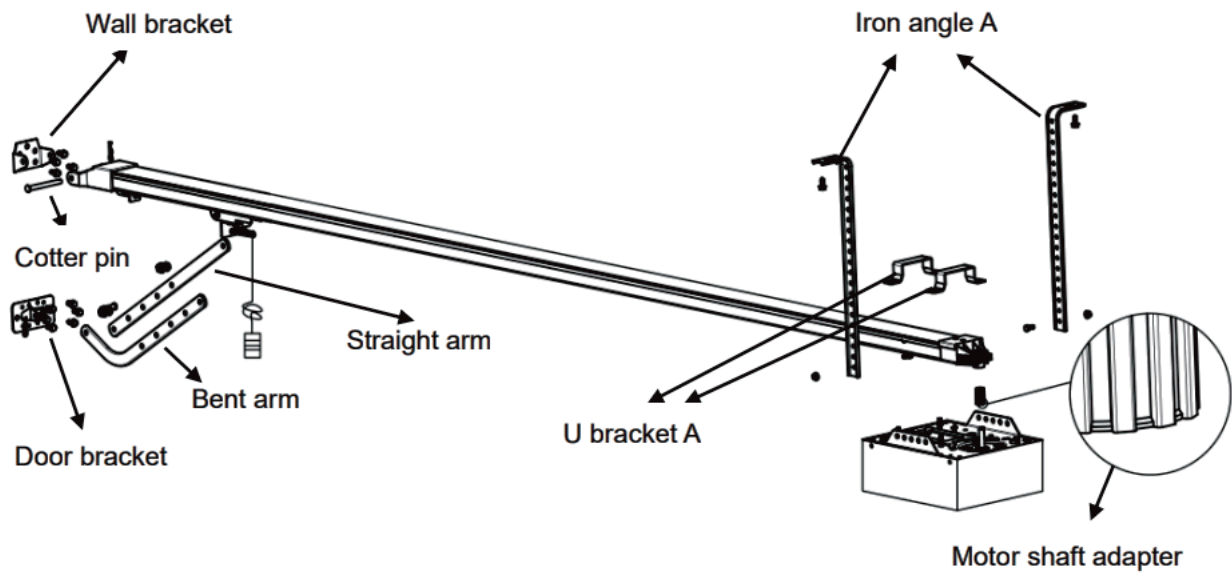

Fig.5
3. Sleeve the motor shaft adapter to the motor shaft according to Fig. 5. Notice: the flanged end facing down.